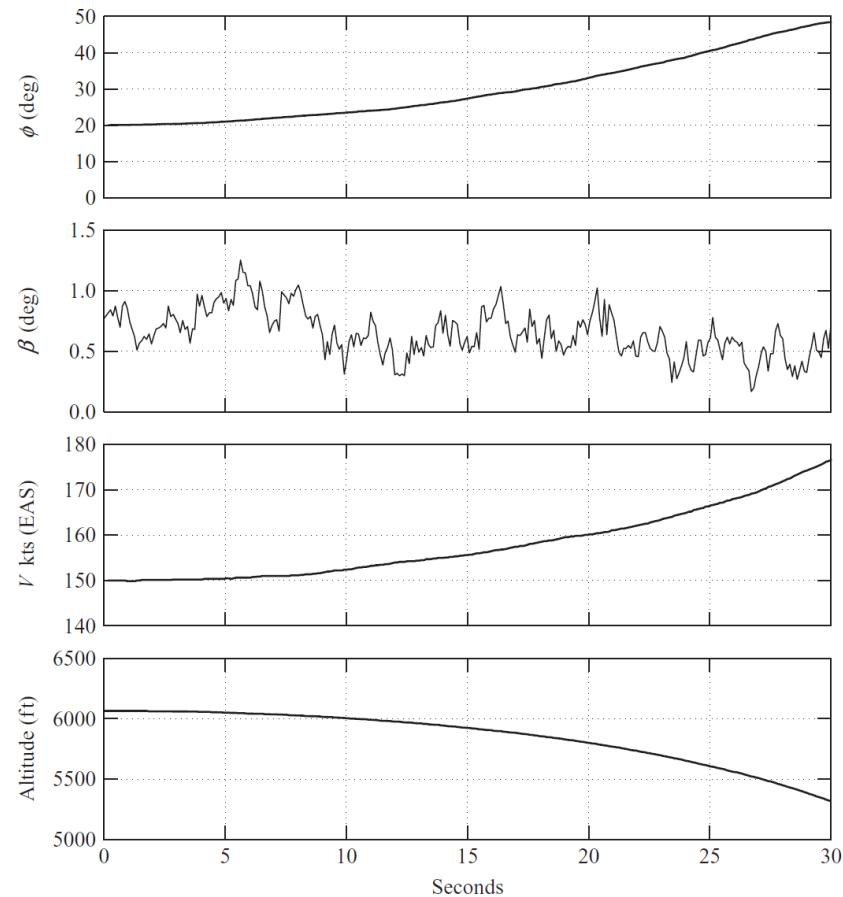

Figure 7.12 Flight recording of the spiral mode departure.
- An example of an **unstable spiral mode**, captured from the time the disturbing rudder input is returned gently to datum, and recorded during a flight test exercise in a Handley Page Jetstream aircraft is shown in Fig. 7.12.